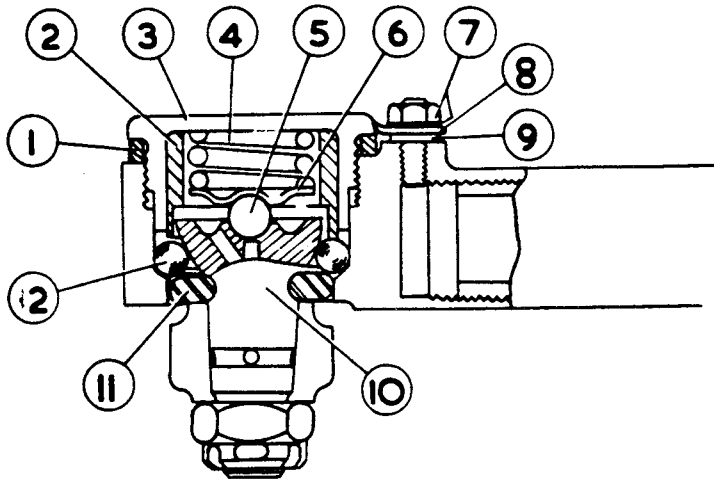
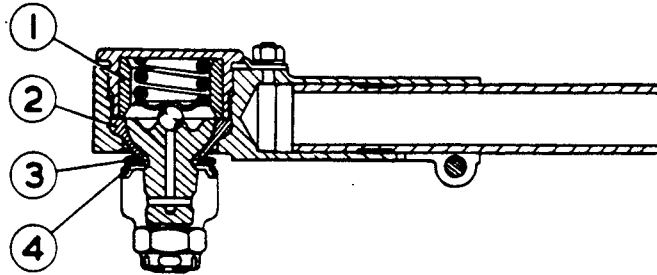

FIG.2. SECTION-SOCKET-SIDE STEERING TUBE FRONT END (PRIOR TO MODIFICATION.)
FIG.3. SECTION-SOCKET-SIDE STEERING TUBE FRONT END
Commencing at Chassis No.B-215-PU steel balls (12 Fig.2) were incorporated in place of the previous bronze seat (2 Fig.3) in the front end socket of the side steering tube to reduce steering friction.
In order to remove the ball end pin (10 Fig.2) connecting the front end of the side steering tube to the centre steering lever, it will be necessary to remove the centre steering lever unit from the frame complete with levers and the side steering tube. Proceed as follows:-
- (i) Remove the rubber seal (11 Fig.2) from the groove in the ball pin.
- (ii) Remove the nut and spring washer, (7), the locking plate (8), the plain washer (9), and with a 'C' spanner, remove the cap nut (3).
- (iii) Remove the joint ring (1) from the cap nut, the sleeve (2), the spring (4), the spring pad (6), the ball (5), the ball pin (10), and finally the steel balls (12). Items 1, 2, 9, 11 and 12, should be discarded. The sleeve (2) is replaced by the sleeve RF-3561. Clean the remaining dismantled parts.
- (iv) Re-assemble the ball joint, using the new parts as illustrated in Fig.3, and refit to the centre steering lever.
NOTE: When it is found that the ball end pin (10 Fig.2) of the front socket has been grooved or pitted by the steel balls, a new pin FW-1000 (included in the list of parts on Page 1) should be fitted.